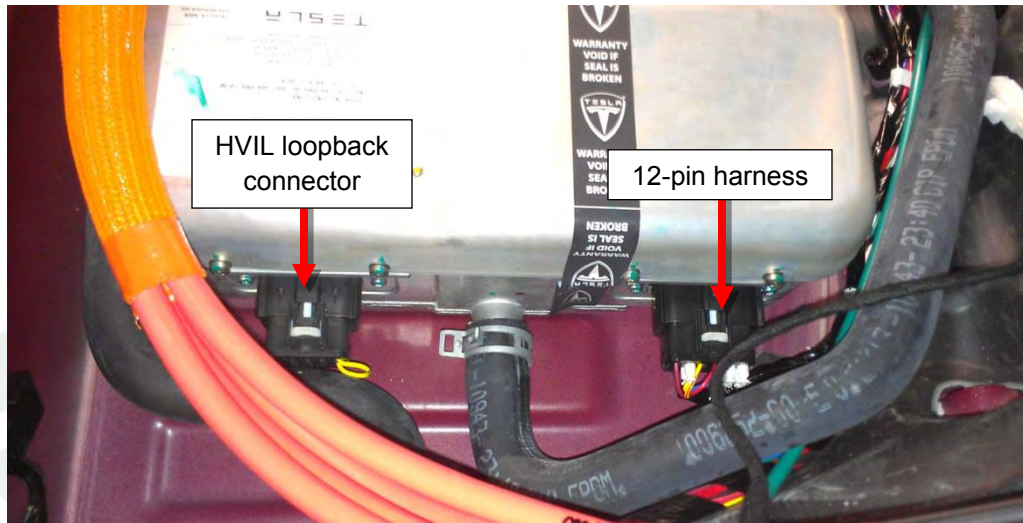

Figure 17
27. Connect the slave charger HVIL loopback connector to the front of the new slave charger, and connect the 12-pin harness to the rear of the new slave charger (Figure 17).